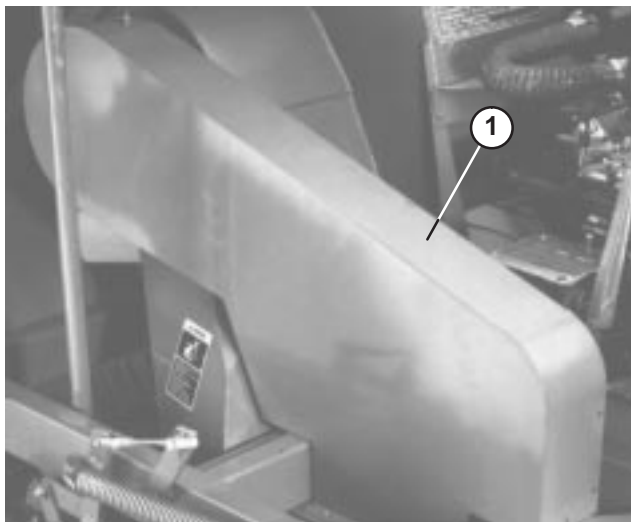

Figure 25
Note: It is not necessary to remove upper belt guard (Fig. 25) to check belt tension. If for some reason belt guard must be removed, remove (4) capscrews, washers and nuts securing guard to frame. Never operate sweeper without guards in place.
- Remove (4) capscrews, washers and nuts securing upper shroud to frame (Fig. 25).